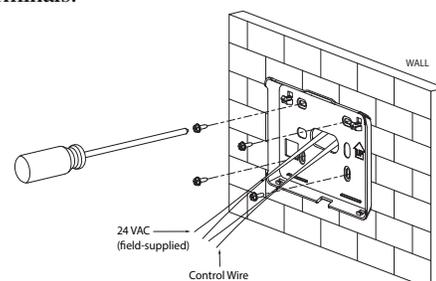

Fig. 6 — Attach back cover to wall
3. Screw the back cover to the wall as shown in Figure 6, and attach the power and control wires to their respective terminals.